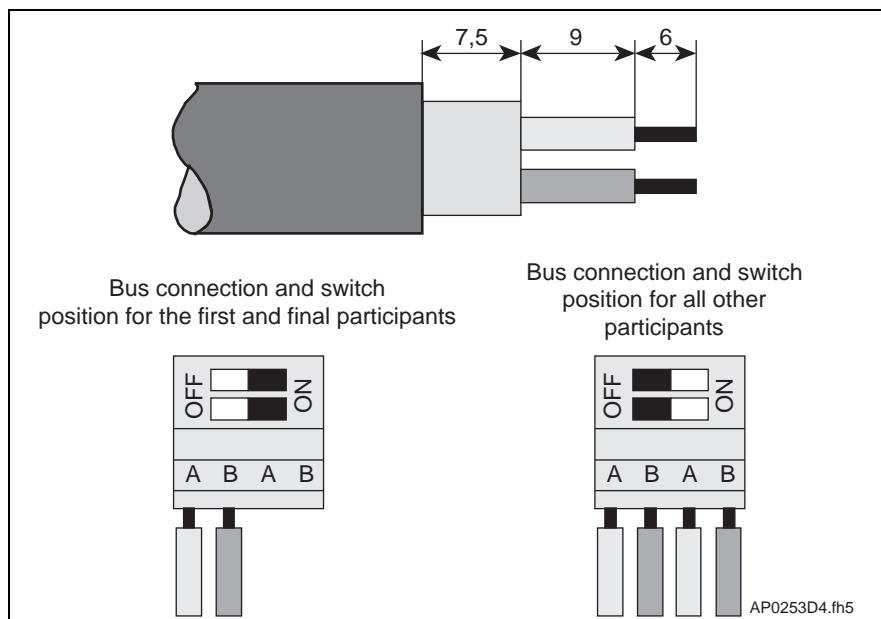

Fig. 4-25: Preparing the cable of a bus connector.
- Strip the cable (Fig. 4-25).